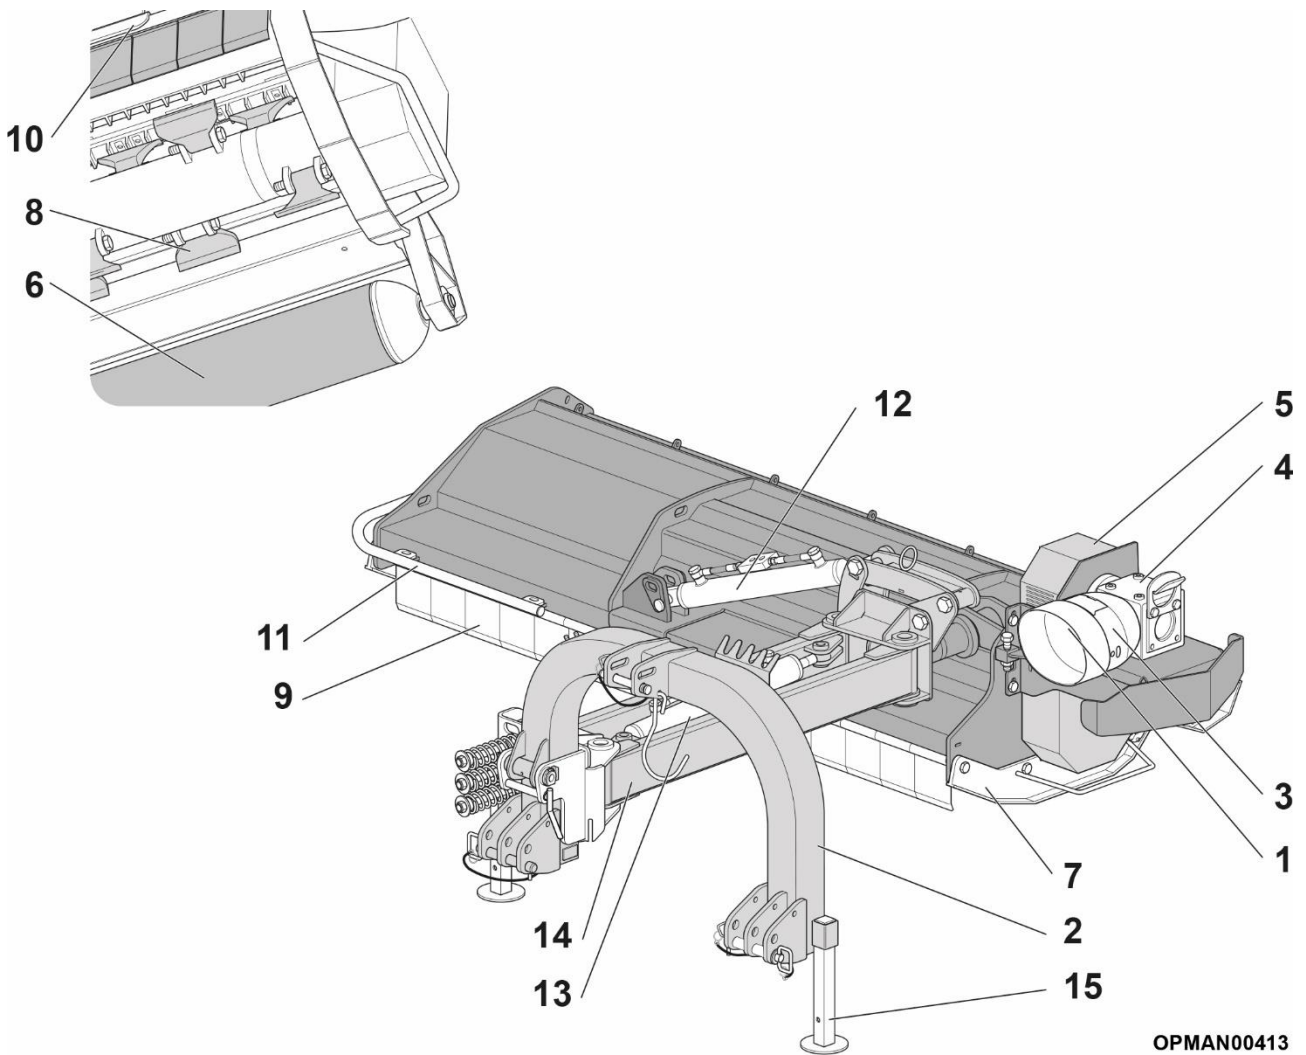

Figure 1
Referring to Figure 1, the Mower is a machine designed and built to perform cleaning tasks from twigs and weeds of embankments, roadsides, scarps or, simply, vineyards and orchards. It can be used both central and offset, offers a work angle of +90 to -55 with variable offset displacement depending on the model used. It must not be used for other purposes or with other materials.
The Mower (Figure 1) basically consists of a closed steel cowl structure in which a rotor shaft with flails is installed (8) and, on the rear side, a rear roller (6) to compact the terrain following the mowing phase. In the front part of the Mower there are two parallel arms (14) with a joint on both the machine side and on the part of the frame with three-point connection, for fastening to the tractor, whose purpose is to support the machine during work and transfer phases. A hydraulic ram (13) attached to parallel linkage arms allow the horizontal movement positioning during operation. A second hydraulic ram (12) lets you angle the Mower to fit the slope of the embankment to work, or you can put it in a vertical position for road transfer. Control for the rams is obtained from the hydraulic cab controls on the tractor by connecting the hydraulic hoses to the ports on the actual tractor. The upper part of the machine is protected by a metal cowl hood that can be opened (10) to allow the inspection of the rotor shaft and the flails, which must be carried out with the machine stopped disconnected from the tractor. The lower part is protected by a number of sheet metal flaps (9) which prevent the soil and/or fragments of plants from being projected outwards. The Mower is powered by the supporting agricultural tractor engine by connecting the gearbox (4) to the PTO of the tractor itself with the input PTO shaft. The gearbox allows a pre-set number of revolutions to be reached for the rotor shaft to rotate via a pulley and belt lateral transmission system (5).